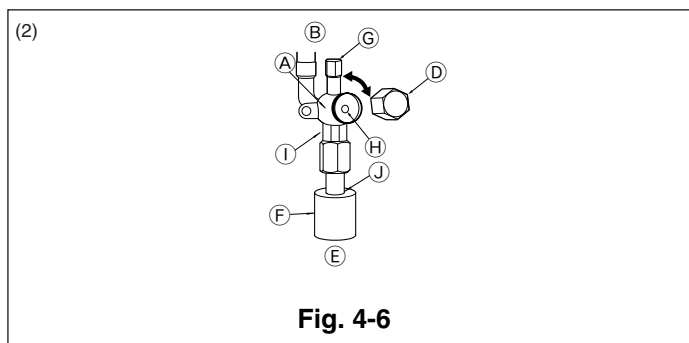

Fig. 4-6
- Liquid side of HA36. (Fig. 4-6)
- (A) Valve
- (B) Unit side
- (C) Operation section
- (D) Cap
- (E) Local pipe side
- (F) Pipe cover
- (G) Service port
- (H) Wrench hole